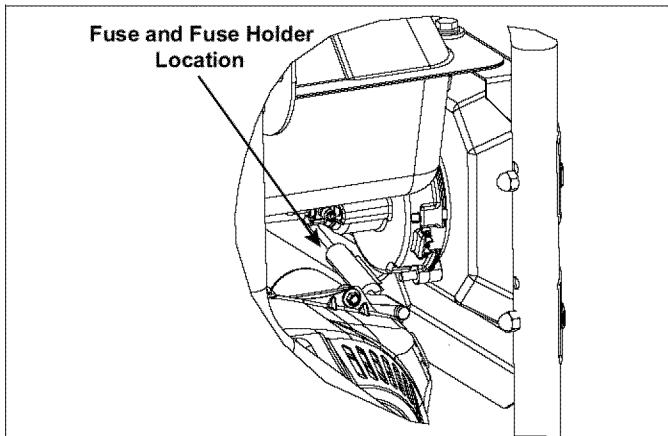

Figure 4-8. Battery Fuse Location
1. The battery charger fuse is located behind the control panel as shown in Figure 4-8.